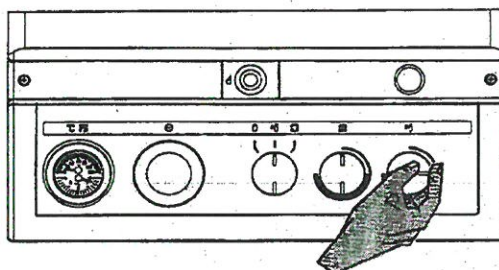

Fig. 4
- 1.3 The temperature of water at the tap can be varied by adjusting the water flow rate at the tap. The Hot Water Temperature control knob (3) will govern the maximum temperature. Turning the knob clockwise increases the setting, anticlockwise decreases setting. (Fig. 4)